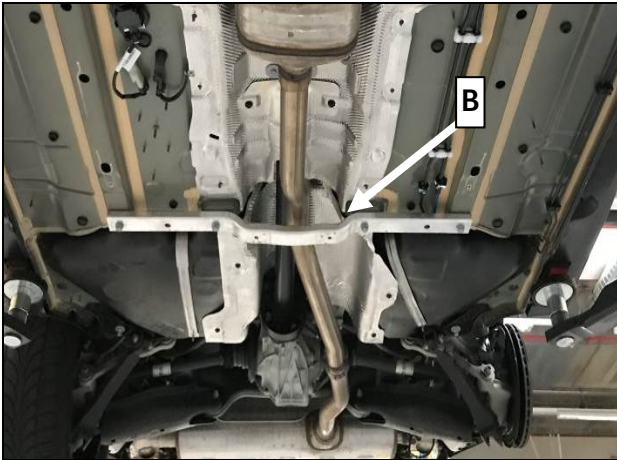

Figure 3
7. Remove rear reinforcement (B and C, Figure 3 and 4) on frame floor assembly.
Figure 3 shown on model 253!